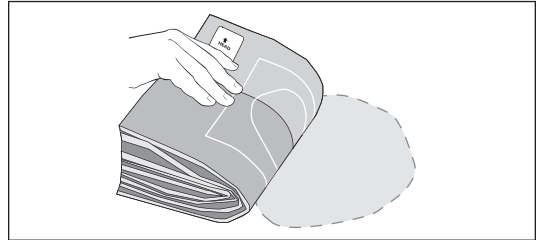

Figure 17
- Position fenestration over intended insertion site (refer to Figure 17).